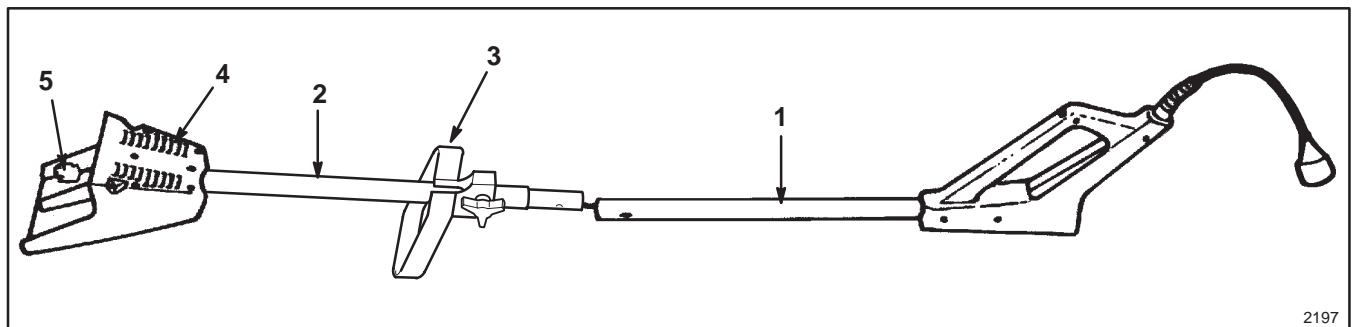

Figure 2
2. Slide the adjustable handle onto the lower tube (Fig. 2).